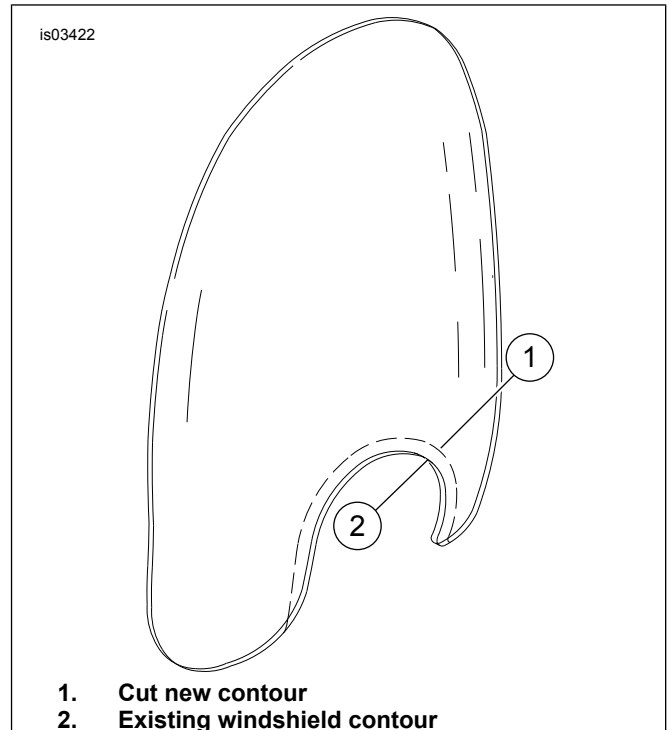

Figure 9. Trimming Detachable Windshield
1. See Figure 9. Cover the bottom 50 mm (2 in) of windshield closest to the headlamp contour, on both sides of the windshield, with two layers of masking tape. This tape provides a surface on which to mark the new cut, as well as keep the cut edge neat.
2. Mark the new cut location alongside, and approximately 31.8 mm (1 1/4 in) from the existing headlamp contour as shown in Figure 9 as a dashed line (1).